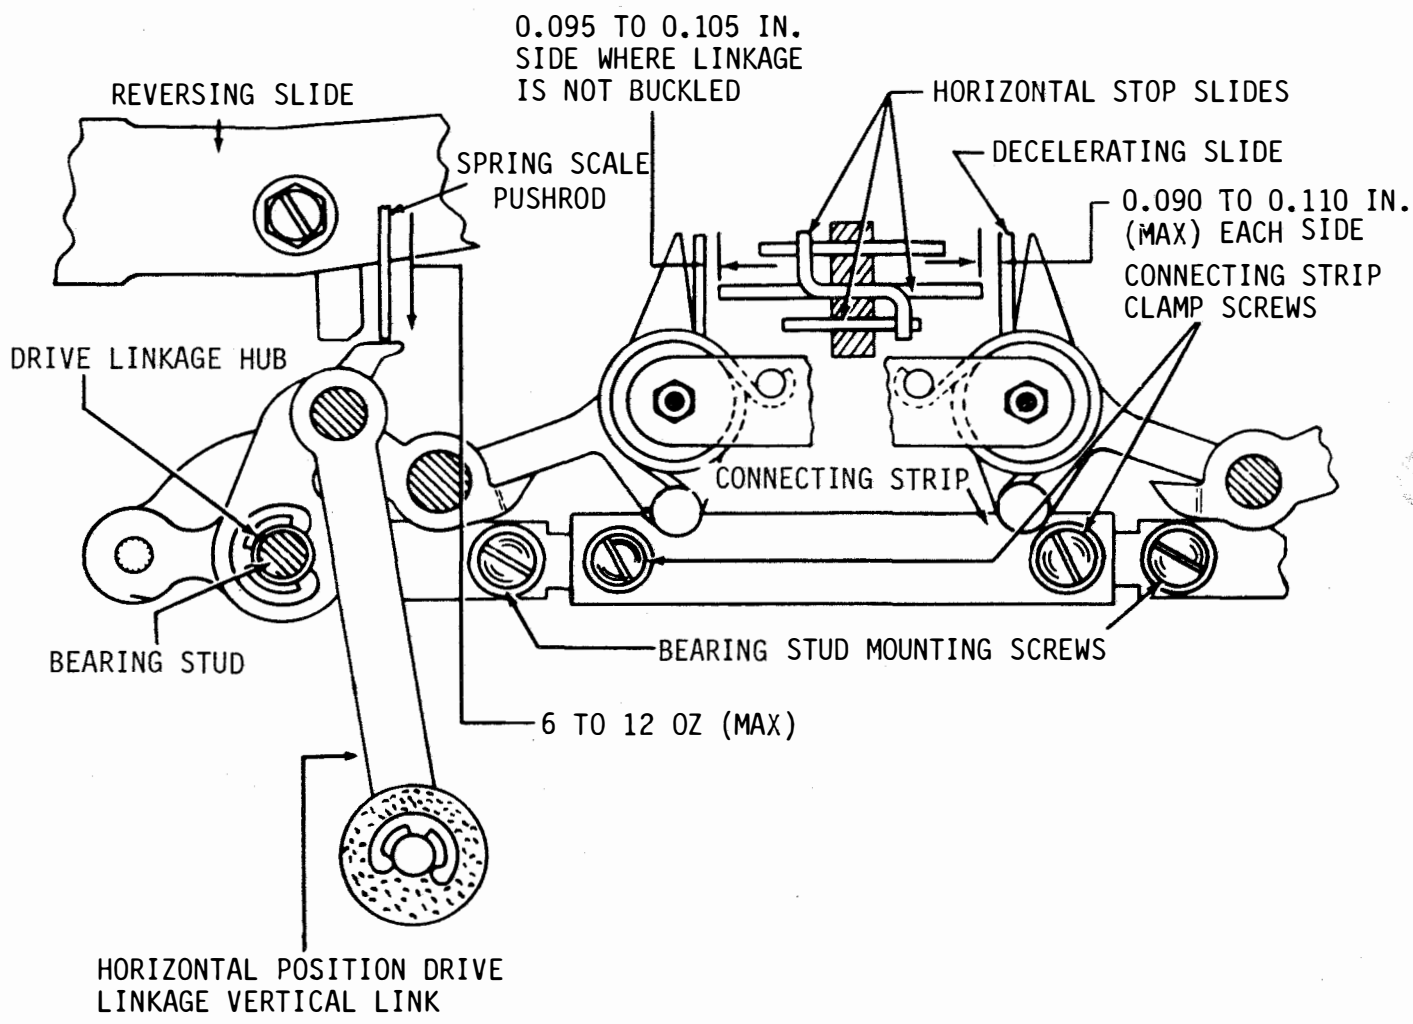

Figure 6-57. Horizontal Positioning Drive Linkage and Drive Linkage Spring, Front View
- (a) Refer to Figure 6-57.
(a) Refer to Figure 6-57.